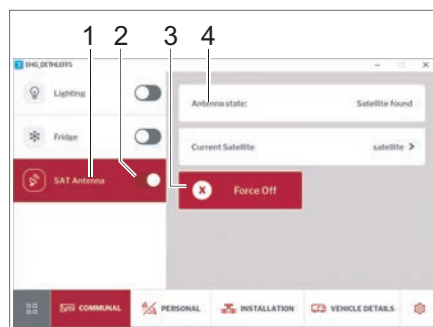

Fig. 258 Satellite unit
- Use the switch to turn the satellite unit (Fig. 258,2) on or off.
- Click on the *SAT unit* (Fig. 258,1) button.
The selected satellite will be displayed (Fig. 258,4).
- Click on the *Emergency Stop* (Fig. 258,3) button, if the unit is driving against resistance.